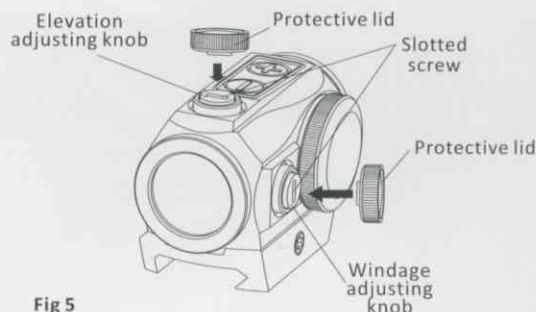

Fig 5
1. On top of sight is the elevation adjusting knob, windage adjusting knob is on the right side (see Fig5). The sight has been primarily adjusted in factory.
2. The Convex platform on the protective cap can be used for zeroing alignment(see Fig5).